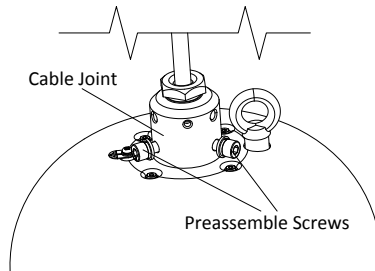

Figure 2-5 Insert the Screws
3. Route the cables into the bracket body. Insert three preassemble screws into the preassemble screw holes on the cable joint (do not tighten the preassemble screws) as shown in Figure 2-5.